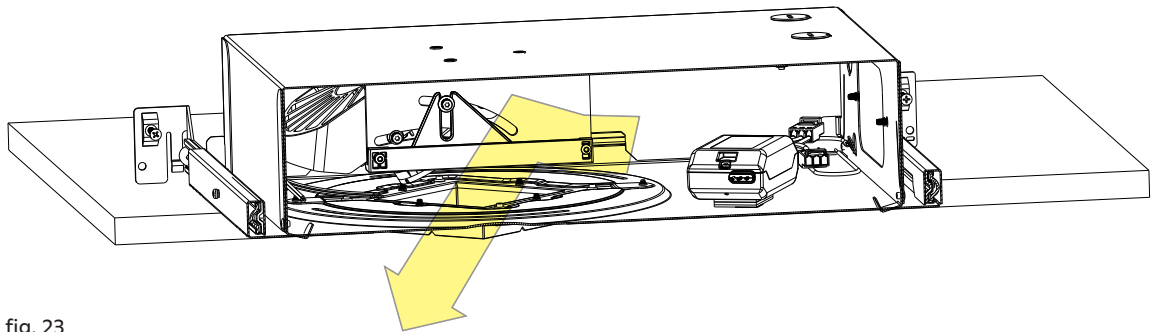

fig. 23
- Pull the cable to release the power supply from the fixture through the aperture (see fig. 23).